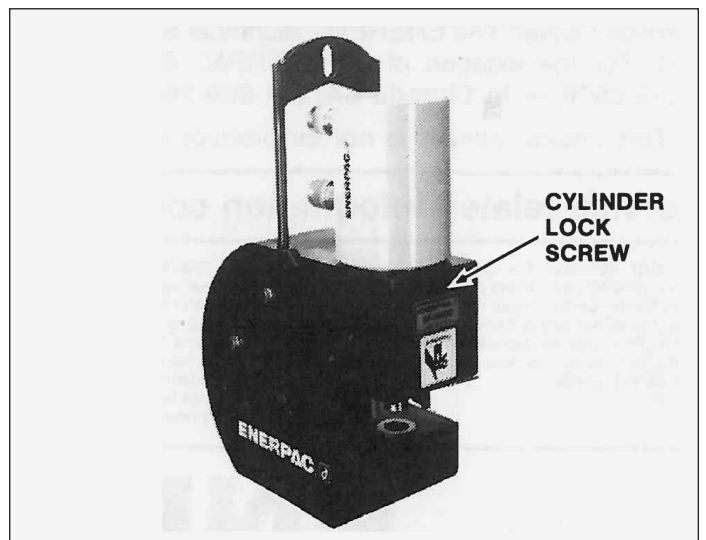

Figure 6
- Remove the cylinder lock screw from front of punch frame (figure 6).